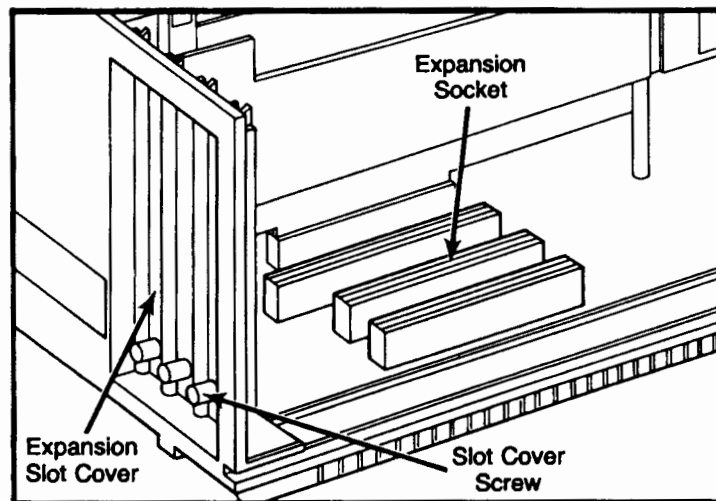

Figure 4-4. Accessory Card Slots
4. Choose any empty expansion slot, but preferably one with a short (8-bit) socket. See figure 4-4.